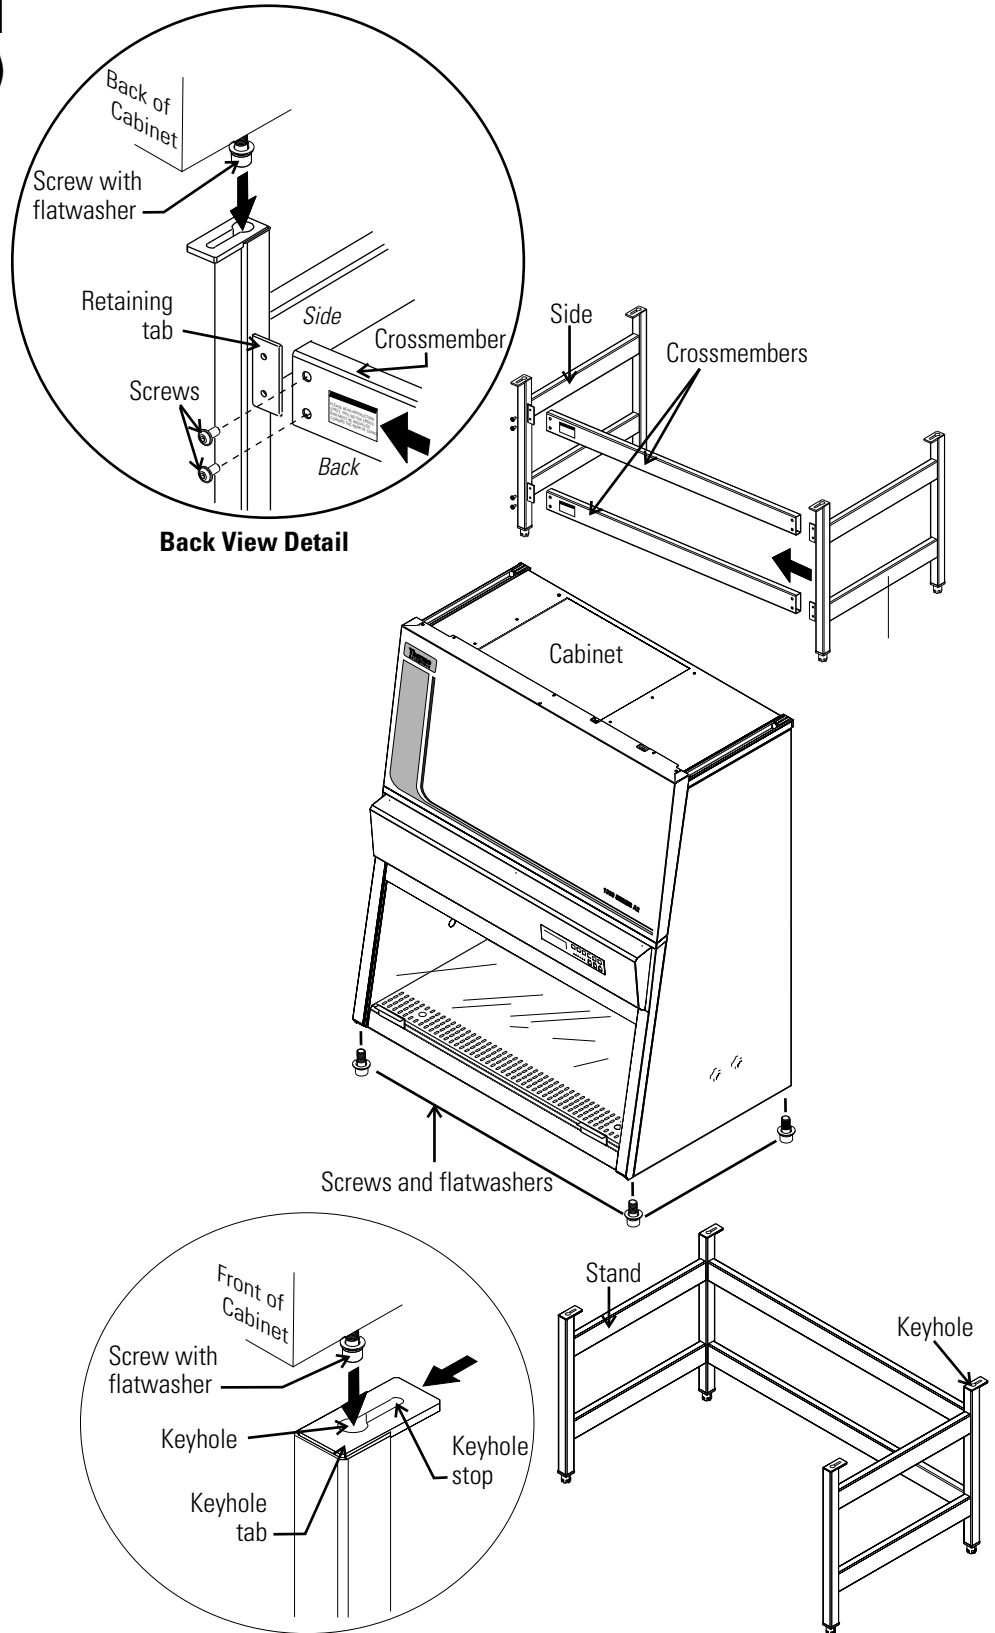

Figure 3-1. Stand Assembly
For a unit without a stand, place the cabinet onto a stable structure capable of supporting two times the unit weight. Make sure the weight is not resting on the drain pan. Then remove the protective covering from the drain pan. See Figure 3-1 on the following page.
5. Slide the cabinet frame to the keyhole stop (Figure 3-1).